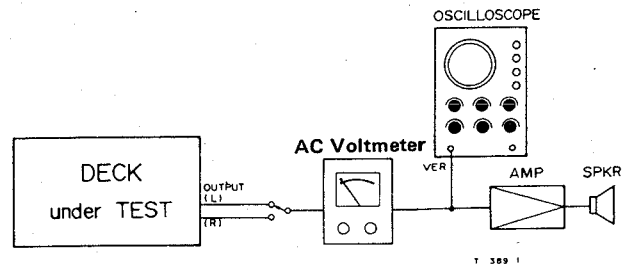

Fig. 6-5 Connection (2)
4. Change the Voltmeter connection to the OUTPUT jacks as shown in Fig. 6-5.
1. Connect the deck and the test equipment as shown in Fig. 6-5 on page 21.